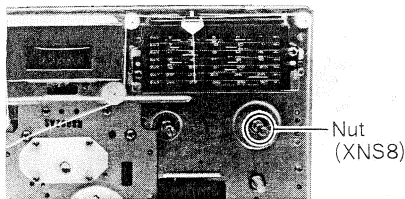

Fig. 19
- 4. Remove the one (1) nut for the switch shaft, as shown in fig. 19.